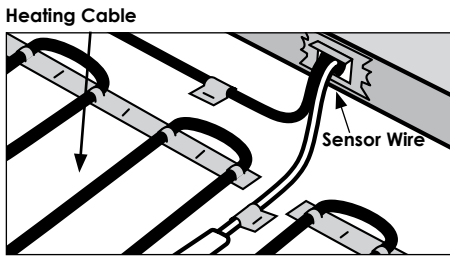

Figure 2
- Pull sensor wire into ECB and secure to the floor. See Figure 2. The sensor must not cross or overlap any other cable on the floor AND must be embedded in the cementitious based mortar in the same manner as the heating cables.